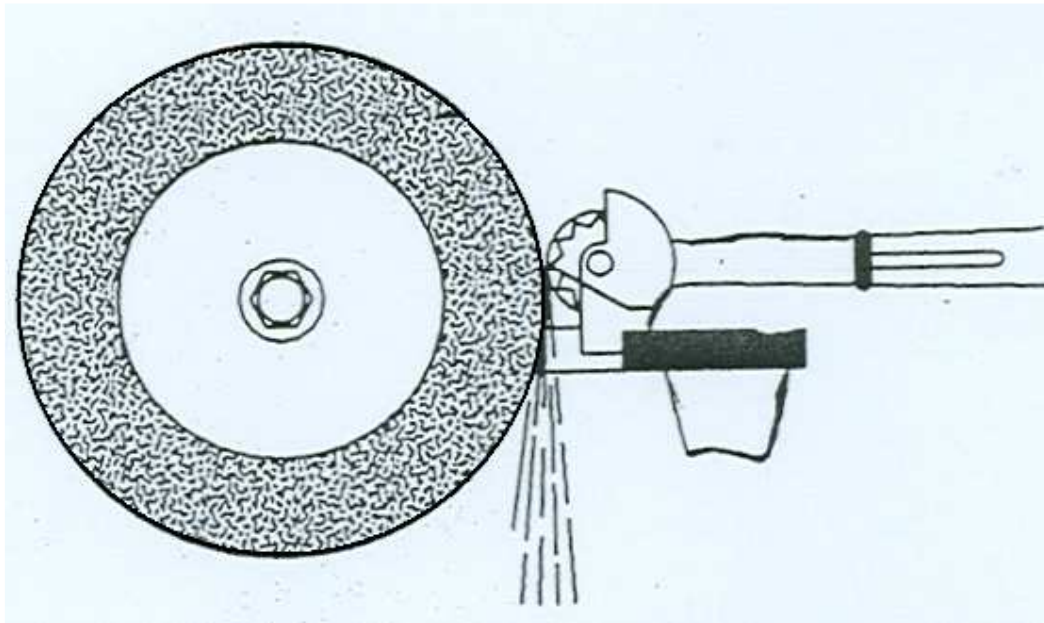

FIGURE 3.3
- 3.4 Use FIGURE 3.3 to assist you to write down steps to be carried out when using a star wheel dresser to dress the grinding wheel.